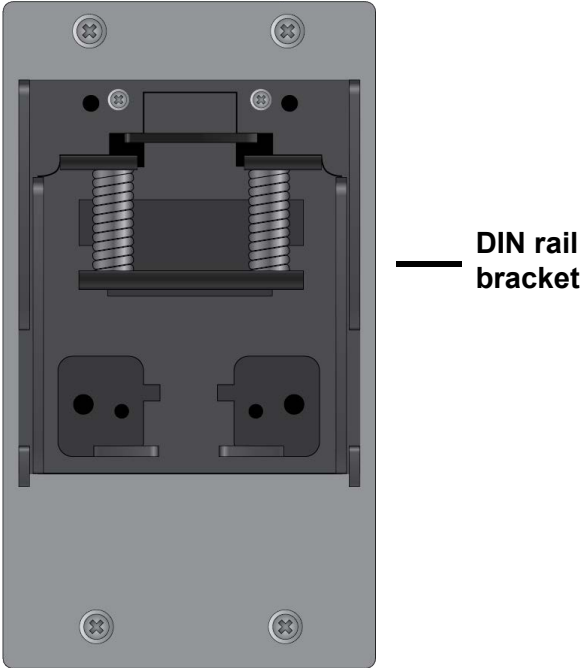

Figure 3. Rear Panel
**Rear Panel** Figure 3 illustrates the rear panel.